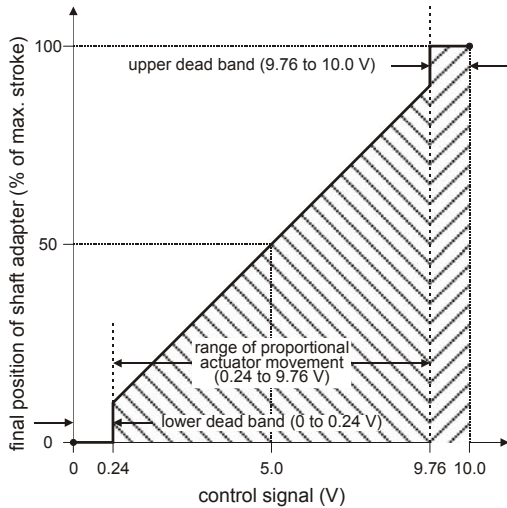

Fig. 4. Final actuator position in dependence upon control signal (example selection setting of 0...10 V)
- the control signal's value rises up into the upper dead band (i.e to more than the max. control signal minus 0.14V) or drops down into the lower dead band (i.e to less than the min. control signal plus 0.14V), and if the shaft adapter can remain at the respective (upper or lower) mechanical end limit at least 3 seconds, the actuator will recognize the new position automatically, and auto-adaption is happened (see Fig. 4).